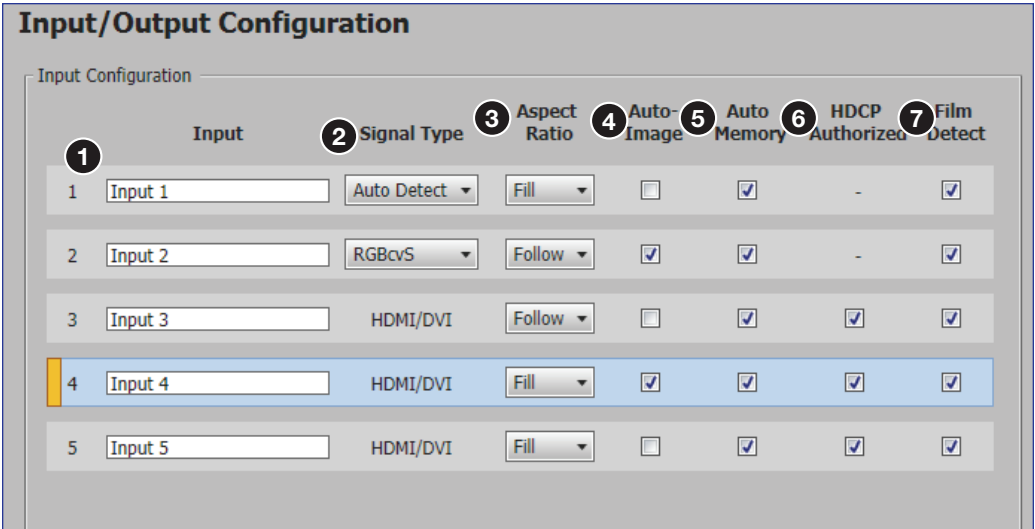

Figure 50. Input Configuration panel
To name an input, click in the relevant input name field (see figure 50, ❶) and enter an applicable name (up to 16 characters).
Select the **Auto-Image** checkbox (see figure 50, 4 on the previous page) for any input to enable an automatic Auto-Image on that input. When enabled, Auto-Image is applied whenever there is a change in the input sync. Auto-Image attempts to size and center the input signal based on the aspect ratio setting.